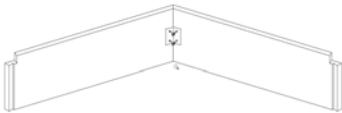
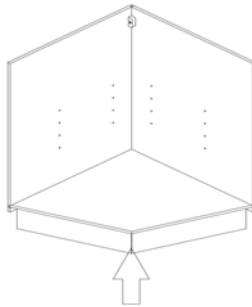

figure3
figure4
3. **Connect the Toe Kick with 135 connection(Figure 3).**Then fit the toe kick on the side panels (Figure4) .